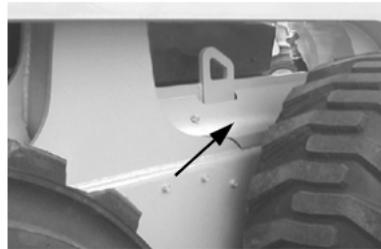

Figure 43 Fill Plug Location
3. If the level is low, add fluid through the fill plug; (Figure 43) (located under the covers at the front of the loader) until the oil level reaches the check plug hole. Reinstall the plugs.